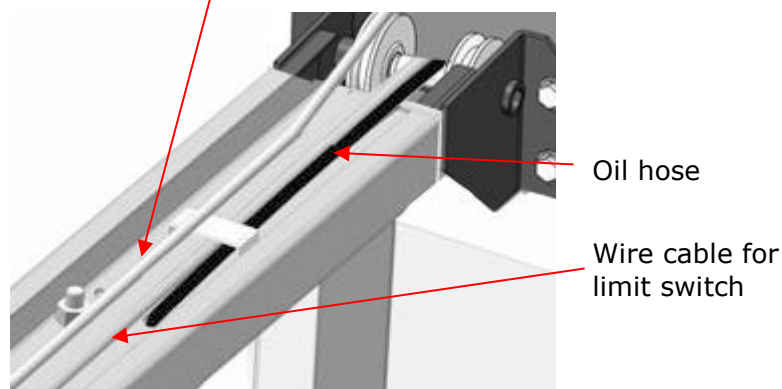

Fig. 36
2. Install safety cable, oil hose and protective cover (See Fig. 34 & Fig. 35 & Fig. 36).